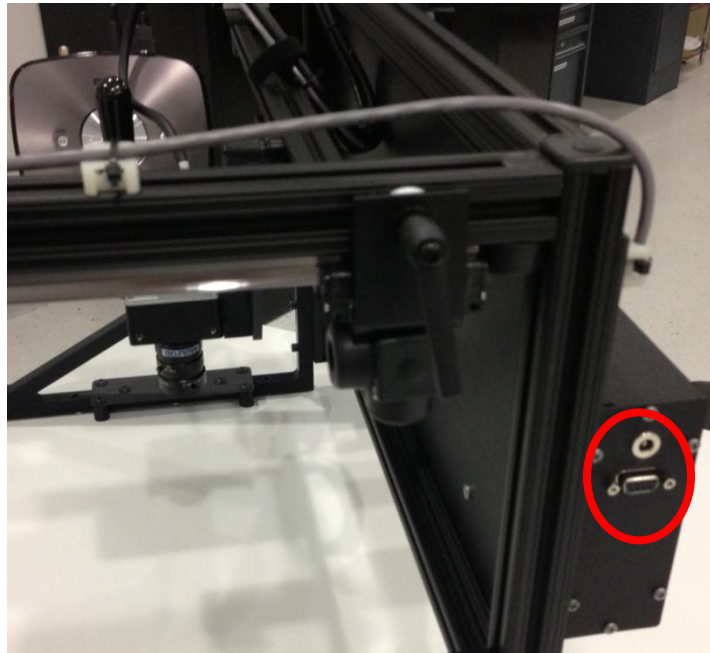
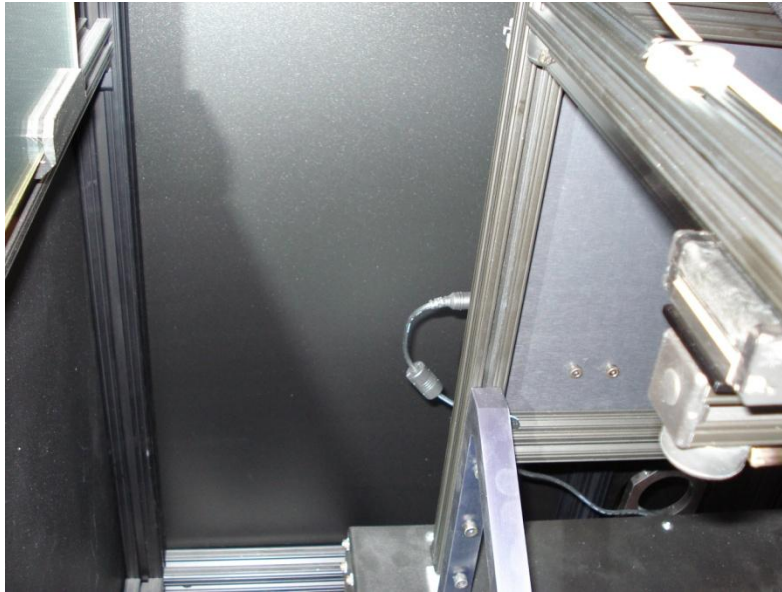
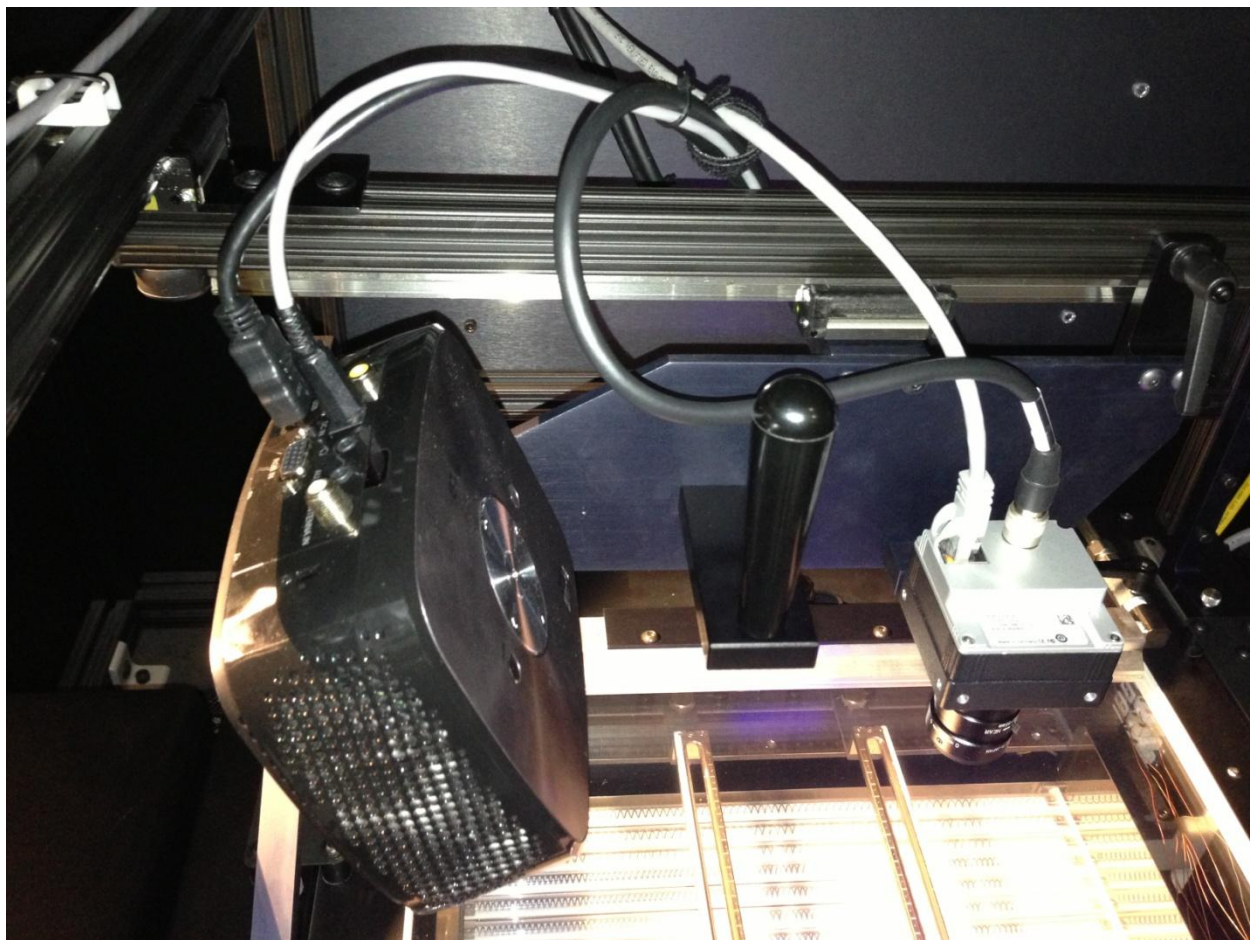
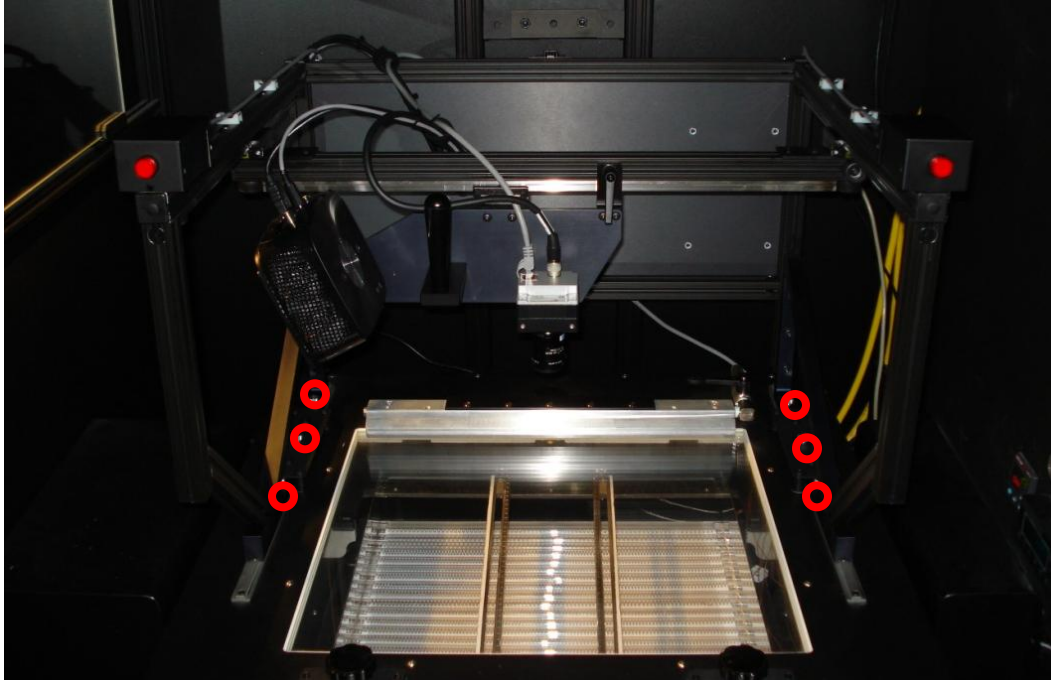

Figure 2.4 Trigger Box Connectors
Figure 2.5 Lid Latch Power Cable
Figure 2.6 DFP Inspection Head Cabling
Figure 2.7 DFP in AXP, thumbscrews circled in red
- Always keep the six thumb screws on the triangle supports while installing or using the DFP module (**Figure 2.7**).
6. Locate the serial cable connected to Comm 4 of the system computer, and one power cable for the trigger box. Plug them into the trigger box located on the back right side of the DFP module (**Figure 2.4**). Next locate the power cable for the lid latch release mechanism and plug it into the lid latch control box located on the back left side of the DFP module (**Figure 2.5**). Finally, locate the Ethernet cable and plug it into the camera. Secure the Ethernet cable to the camera trigger cable using the Velcro strap as shown in **Figure 2.6** **Figure 2.7**.
7. Remove the 6 aluminum thumbscrews (marked by red circles in **Figure 2.7**). Slide the module forward and lift it by the aluminum braces located on either side of the inspection assembly as shown circled in red in **Figure 2.1**.